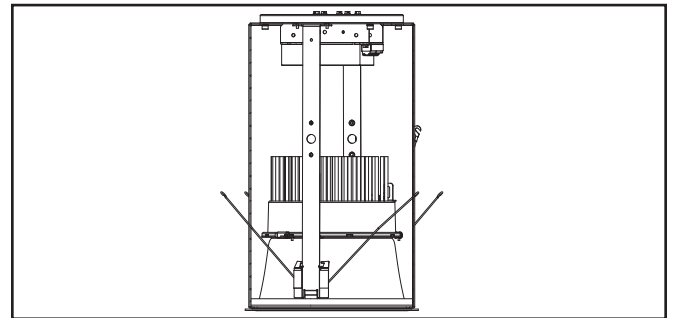

Figure 9.
5. Install the LED Engine and trim assembly by inserting the torsion springs into the spring receivers located inside the housing (Figure 9).